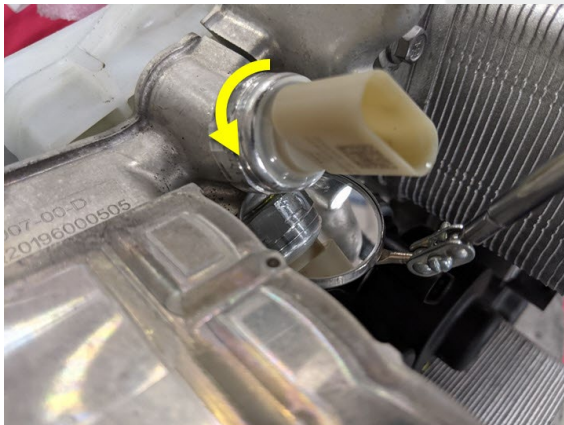

Figure 10 – Back off little
- Manually back off and tighten the low pressure P/T sensor in an incremental manner so that the sensor O-ring properly slides into the chamfer in the Supermanifold (Figures 10 and 11).